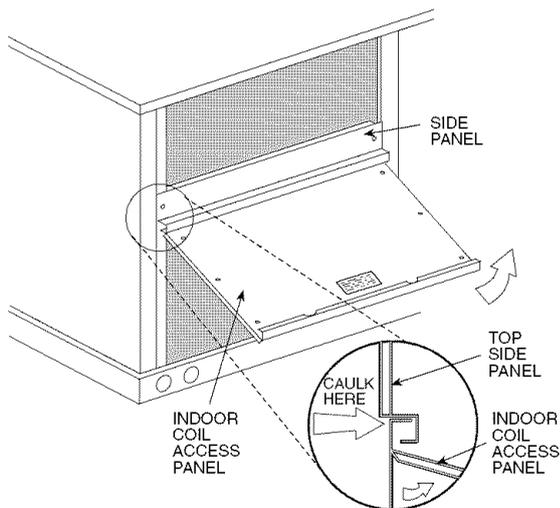

Fig. 28 — Indoor Coil Access Panel Relocation
3. The indoor coil access panel will be used as the top of the hood. Remove the screws along the sides and bottom of the indoor coil access panel. See Fig. 28.
8. Caulk the ends of the joint between the unit top panel and the hood top. See Fig. 28.